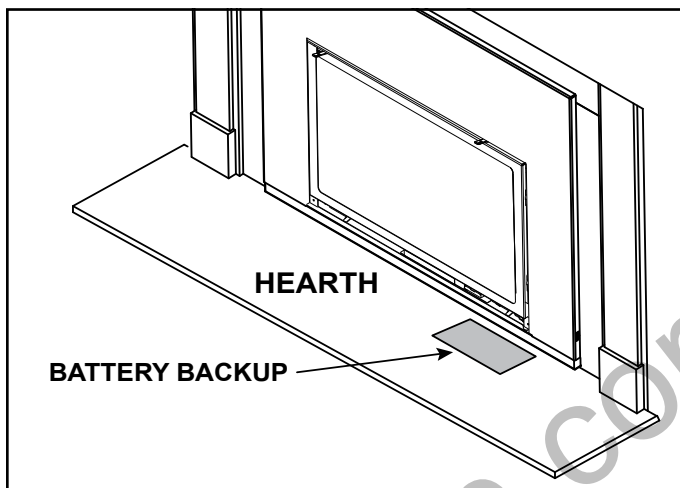

Figure 6
**NOTICE:** DO NOT store battery backup pack or batteries under the appliance. If using the battery backup system, the pack and batteries should be left in front of the appliance. See Figure 6.